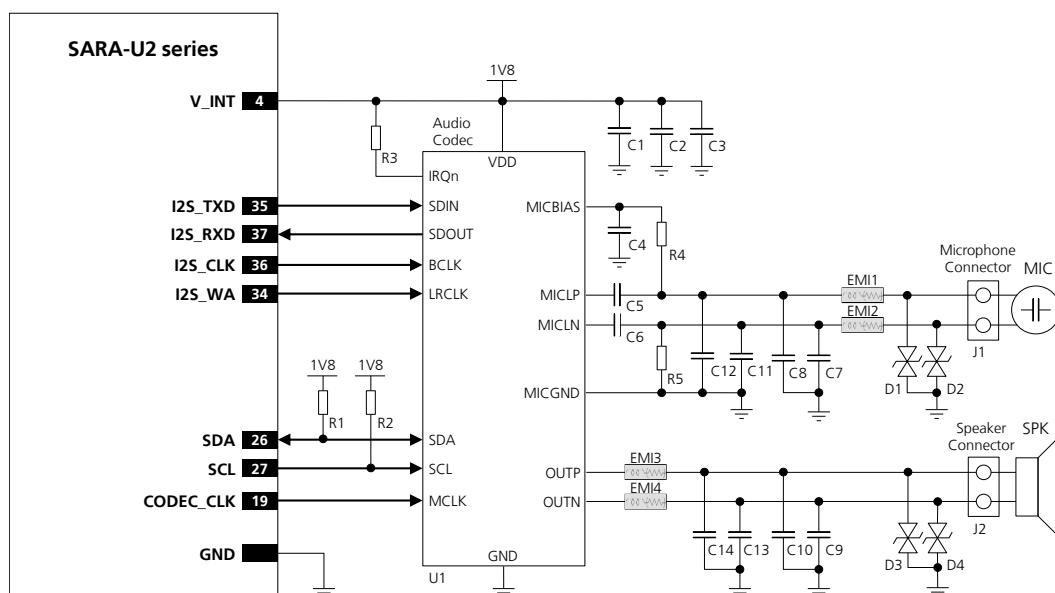

Figure 86: Application circuit for connecting SARA-U2 modules with an external audio codec to provide voice capability
Figure 86 and Table 57 describe an application circuit example for the I2S digital audio interface of SARA-U2 modules providing voice capability using an external audio voice codec. DAC and ADC integrated in the external audio codec respectively converts an incoming digital data stream to analog audio output through a mono amplifier and converts the microphone input signal to the digital bit stream over the digital audio interface.
- Additional components are provided for EMC and ESD immunity conformity: a 10 nF bypass capacitor and a series chip ferrite bead noise/EMI suppression filter provided on each microphone line input and speaker line output of the external codec as described in Figure 86 and Table 57. The necessity of these or other additional parts for EMC improvements may depend on the specific application board design.